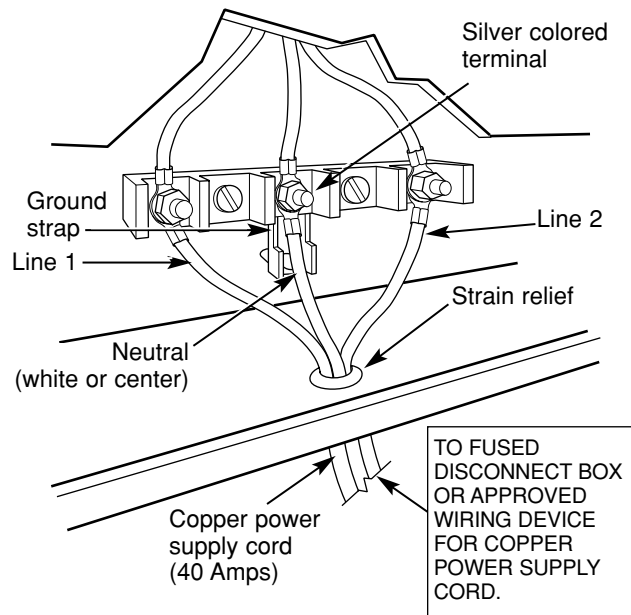

FIGURE 1
C. Connect the neutral wire of the copper power supply cord to the center silver colored terminal of the terminal block and connect the outer wires to the outer terminals. See Figure 1.